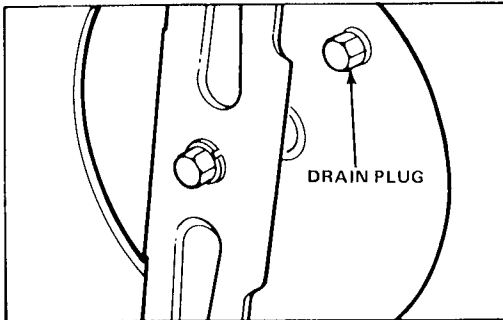

Figure 16
4. Clean area around drain plug. Using 1/2 inch open end wrench, remove drain plug (Fig. 16). Gradually tip mower back to its normal position.